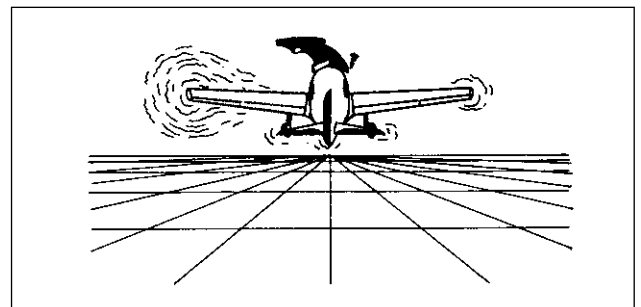

Figure 12-14. Just before or as the stall occurs (depending on the airplane), apply rudder in the direction of spin.
2. Just before the break occurs, apply full left rudder and continue to bring the stick or wheel full aft. The left wing stalls (Figure 12-14).